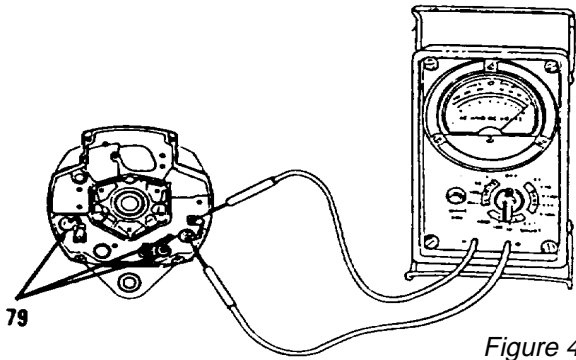

Figure 4-14.
- 6. Using ohmmeter set to lowest range, test three negative diode wire assemblies (79, Figure 4-14). Touch one test wire to the negative diode casing and the other wire to the terminal, then switch test wires. Meter should indicate one high and one low reading. Replace three negative diode wire assemblies (79) if readings are the same.